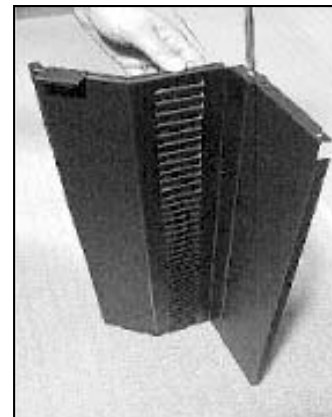
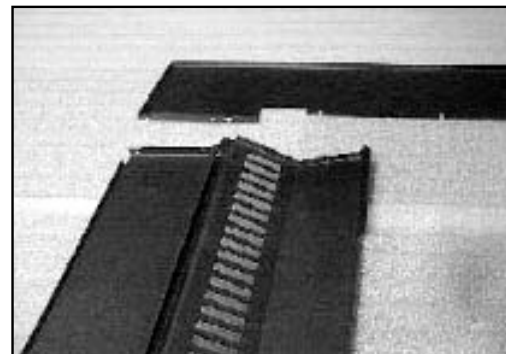

Figure 21.4
Figure 21.5
3. Stand assembly on end and attach and install (1) 8-32 x 3/8 inch screw through tab in side panel and curtain. **Figure 21.4**. Lay face down as shown in **Figure 21.5**.